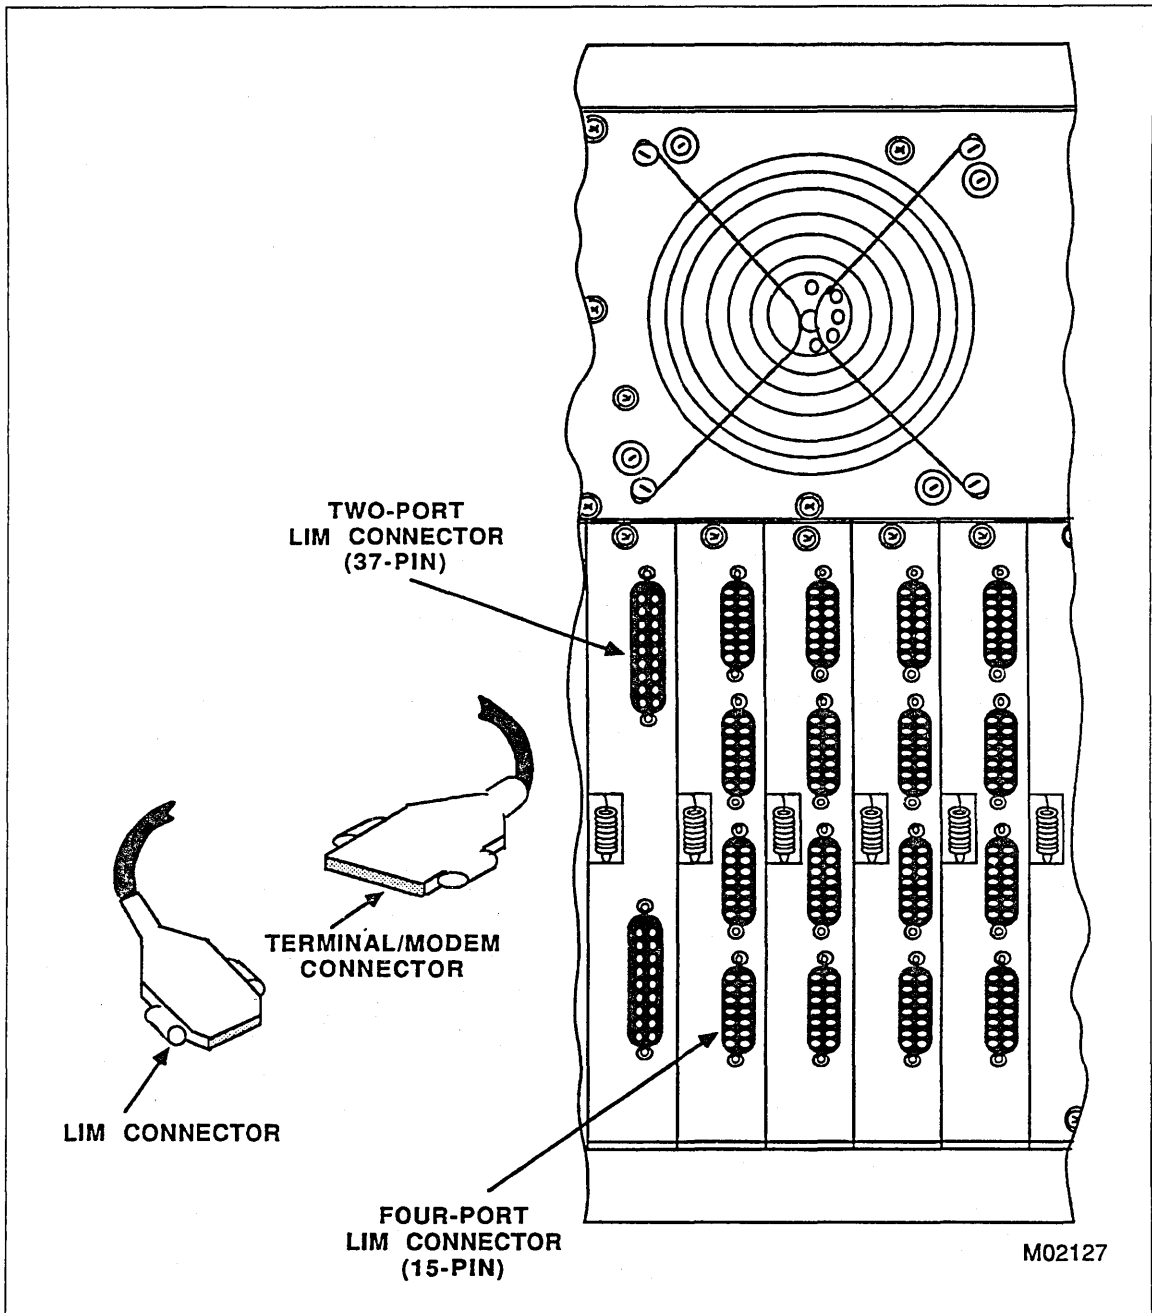

Figure 2-5. Installing 2-Port LIM Cables
1. Connect the cable(s) to the DI. 2-port LIM cables are shown in figure 2-5. Tighten the locking screws with a straight slot screwdriver.